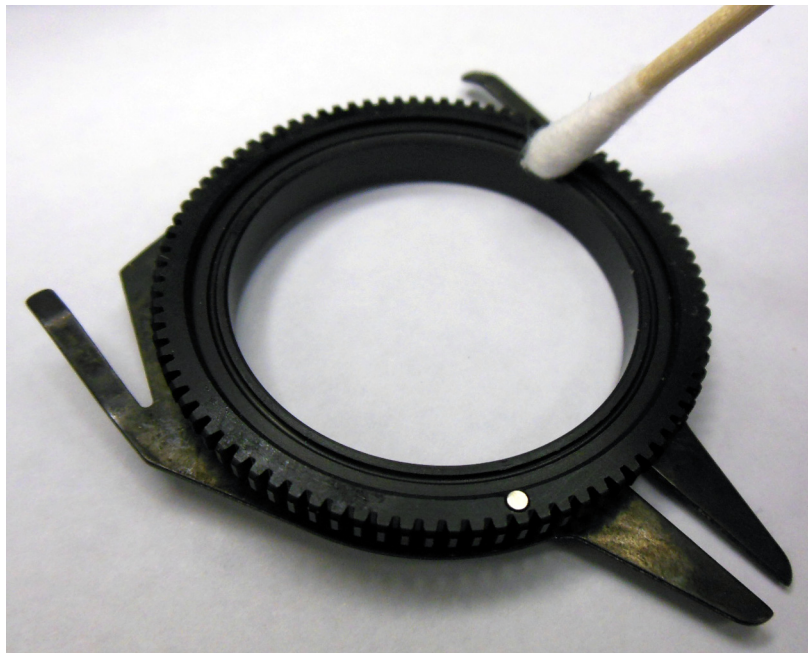

Figure 1: Cleaning Gobo Carrier
Step 1. Place gobo carrier on workbench with its gear side up as shown in **Figure 1**.